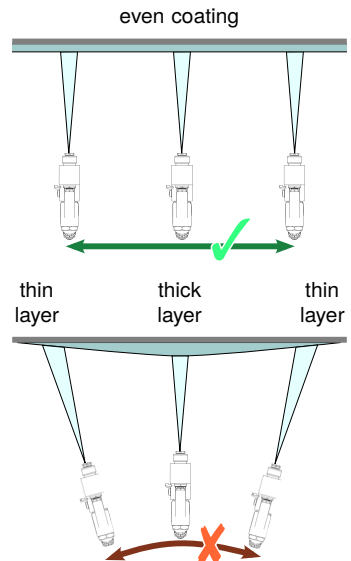

Fig. 11: Gun guidance
- ▶ Ensure an even speed of the movement and guide the spray gun parallel to the coating surface. Weaving with the spray gun leads to an uneven coating (see Fig. 11).